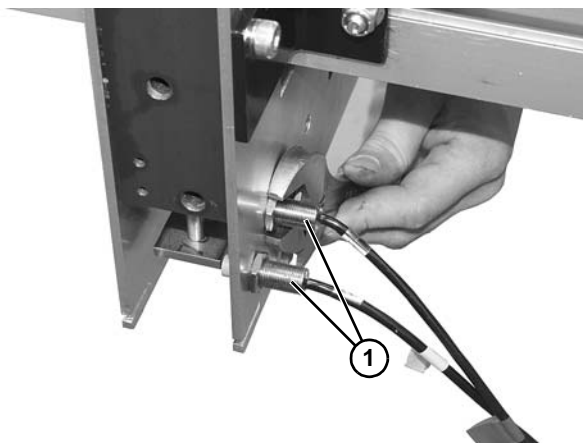

Figure 22
- c. Remove plastic cover and mount sensors (Figure 22, item 1) to lift frame. Install side cover with screw.